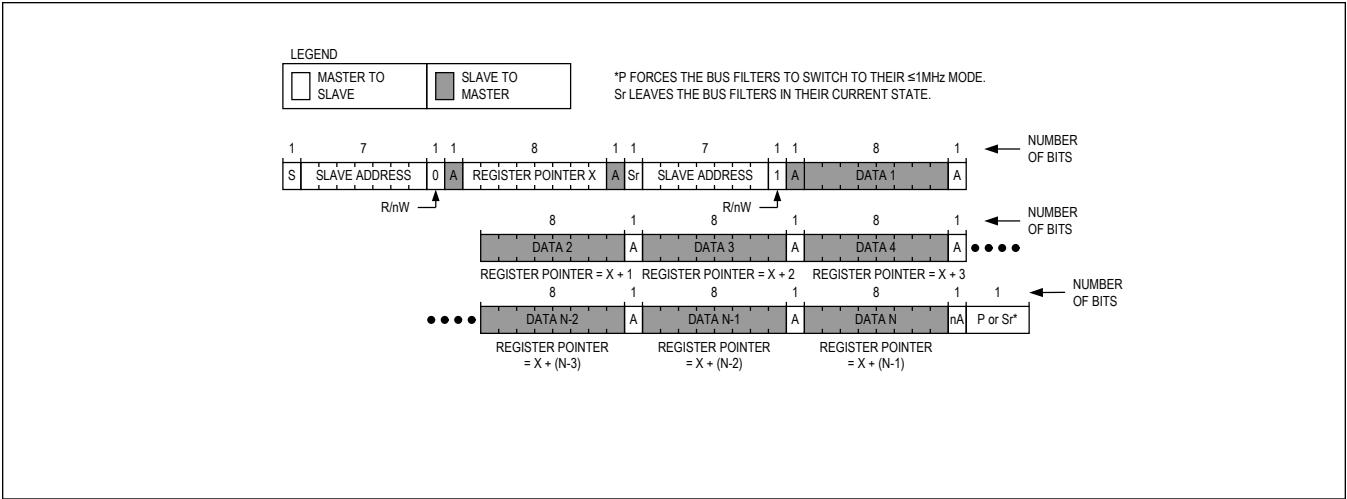

Figure 12. Reading from Sequential Registers
Figure 12 shows the protocol for reading from sequential registers. This protocol is similar to the "Read Byte" protocol except the master issues an ACKNOWLEDGE (A) to signal the slave that it wants more data—when the master has all the data it requires, it issues a NOT-ACKNOWLEDGE (nA) and a STOP (P) to end the transmission.